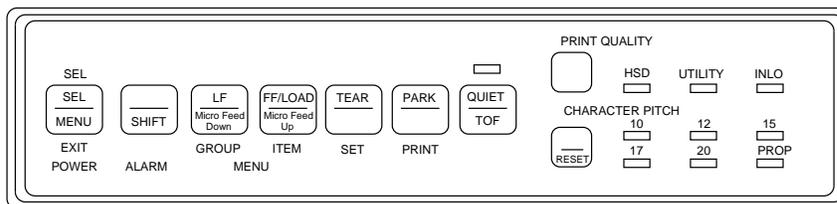

Figure 18-2. Model 602 ROP Control Panel
7.1. At the ROP control panel, press the **SEL/MENU** button. See Figure 18-2.
- 8.1. At the ROP control panel, press and hold the **SHIFT** button and then press the **SEL** button to deselect the ROP (no data can be received). See Figure 18-2.